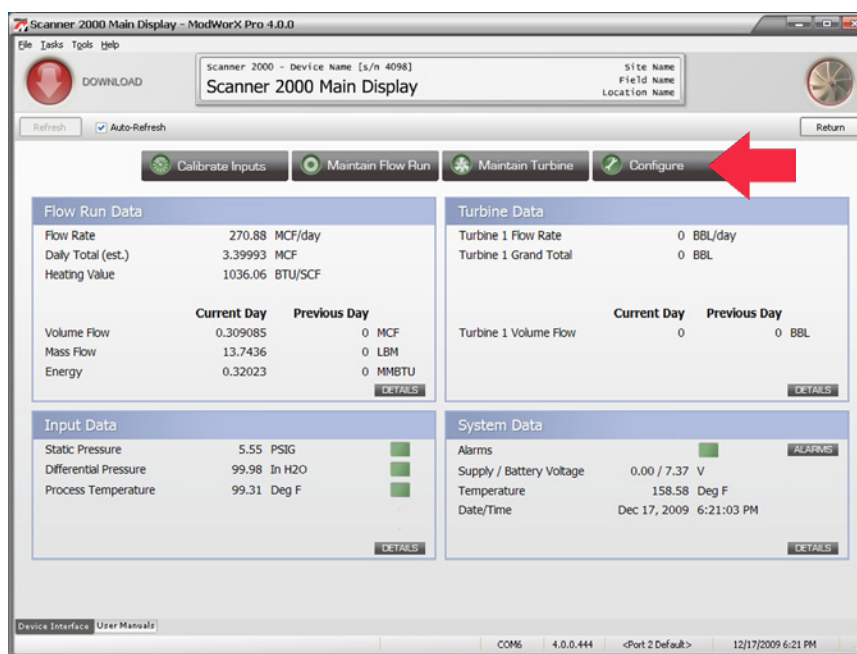

Figure 3.1
1. Click on the **Configure** button in the task menu bar on the Main Display screen (Figure 3.1).